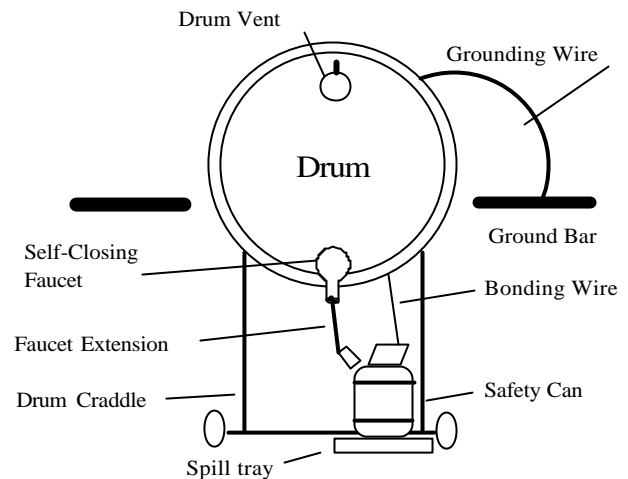

Fig. 5
- Ensure drums are properly grounded (see Fig 5). Grounding wire must be securely attached to drum at one end and the other attached to the wall mounted metal bus strip. Verify screw clamps are tight before proceeding. Determine whether a faucet extension is attached to drum faucet.